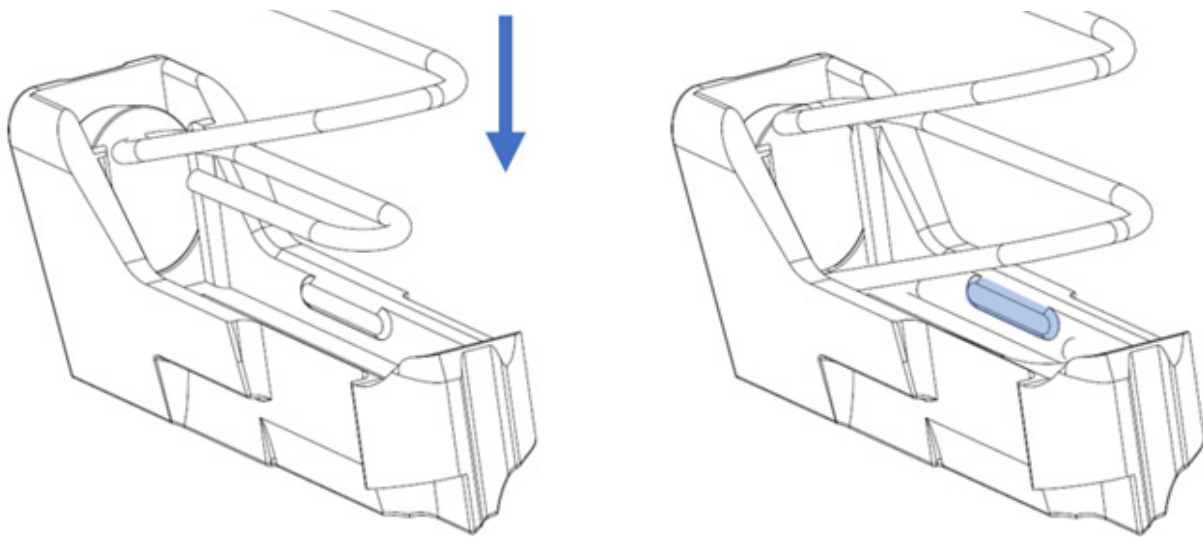

Figure 67: a) Direction to insert the follower spring. b) Then secure the spring to the follower's clips.
7. Attach the RISCpro follower on the magazine spring. (Figure 67)